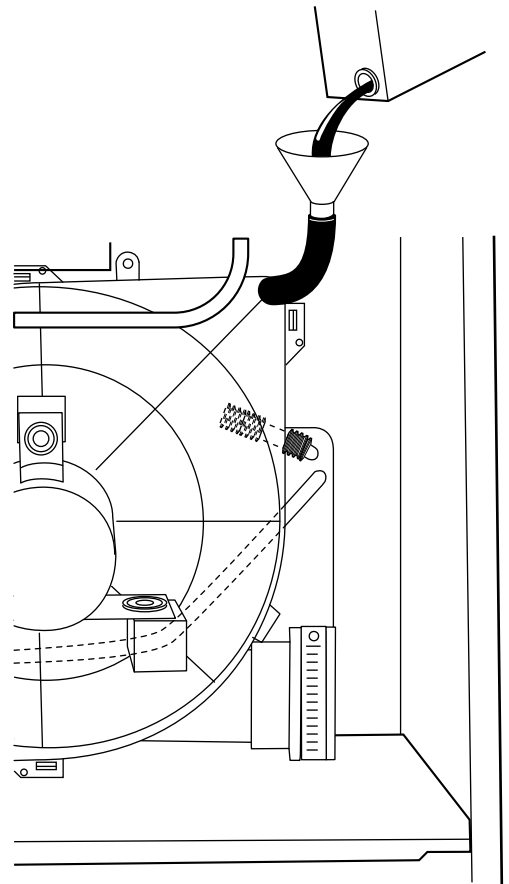

Fig. 44—Filling Condensate Trap
4. Pour 1 quart of water into funnel/tube. Water should run through inducer housing, overflow condensate trap, and flow into open field drain. (See Fig. 44.)